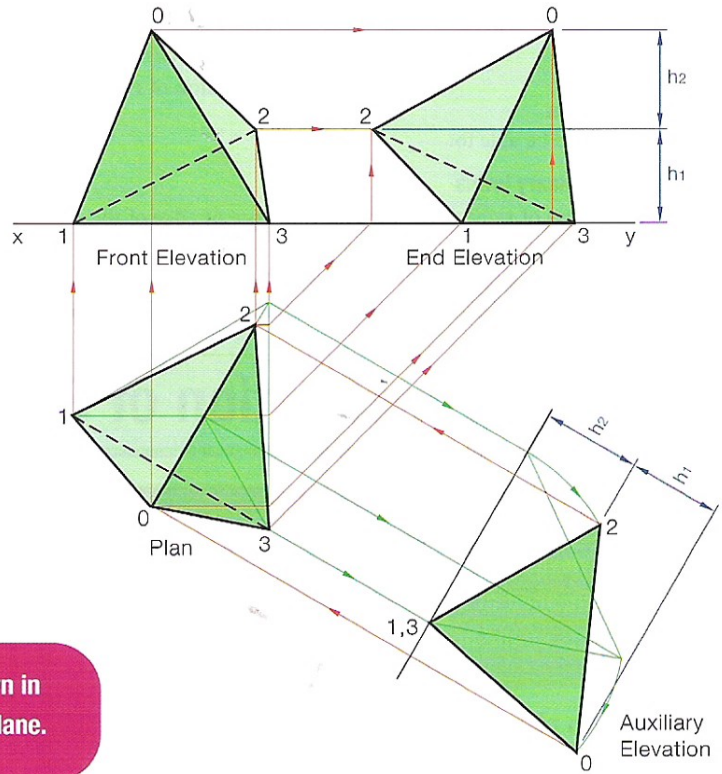

Fig. 5.5
- (1) The construction is the same as the previous problem. View in the direction of edge 1,3.
- (2) The edge 2,0 will be a true length in the auxiliary.
- (3) Project the views back from the auxiliary and the heights are taken from the auxiliary, Fig. 5.5.